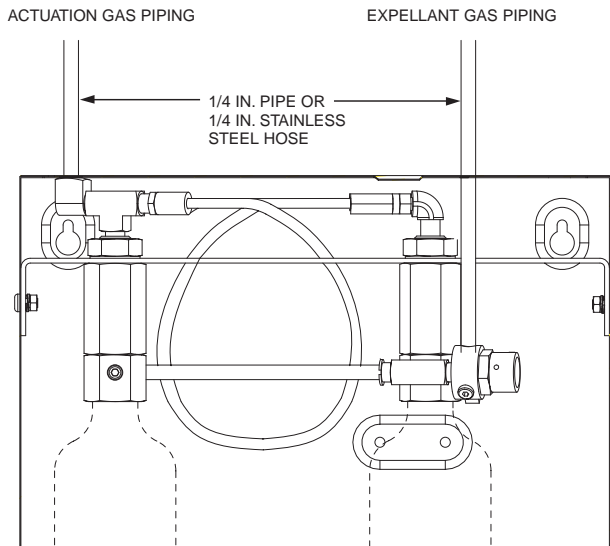

FIGURE 8
1. All actuation, and distribution piping requirements are the same as those listed in Section V, "Installation," "General Piping Requirements." Also, install 1/4 in. expellant gas line between water tank expellant gas assembly and the water tank adaptor. See Figure 8 for piping/stainless steel hose options.